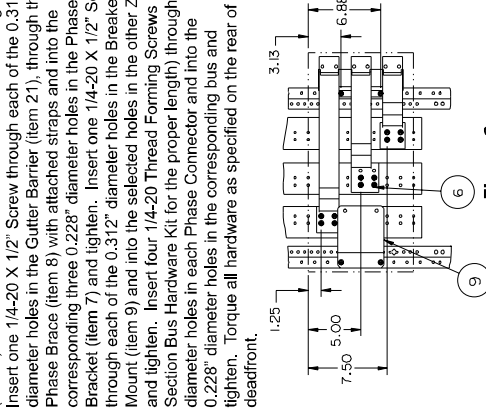

Figure 6
6. Reference fig. 6 - Installing the strap assembly. Locate 0.228" diameter holes on each Z-rail 3-1/8" down from the top and 3-1/8" up from the bottom of the empty 10" unit space. Insert one 1/4-20 X 1/2" Screw through each of the 0.312" diameter holes in the Phase Bracket (item 7) and into the selected holes in the Z-rail and tighten. Insert one 1/4-20 X 1/2" Screw through each of the 0.312" diameter holes in the Phase Brace (item 8) with attached straps and into the corresponding three 0.228" diameter holes in the Phase Bracket (item 7) and tighten. Insert one 1/4-20 X 1/2" Screw through each of the 0.312" diameter holes in the Breaker Mount (item 9) and into the selected holes in the other Z-rail and tighten. Insert four 1/4-20 Thread Forming Screws (see the Section Bus Hardware Kit for the proper length) through the 0.312" diameter holes in each Phase Connector and into the 0.228" diameter holes in the corresponding bus and tighten. Torque all hardware as specified on the rear of deadfront.